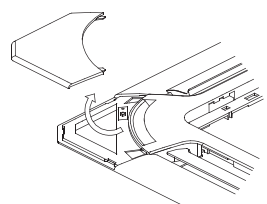

Fig.5-9
- Wrench off the bolts, loose the rope of the installation covers, and remove them. (Refer to Fig.5-9)